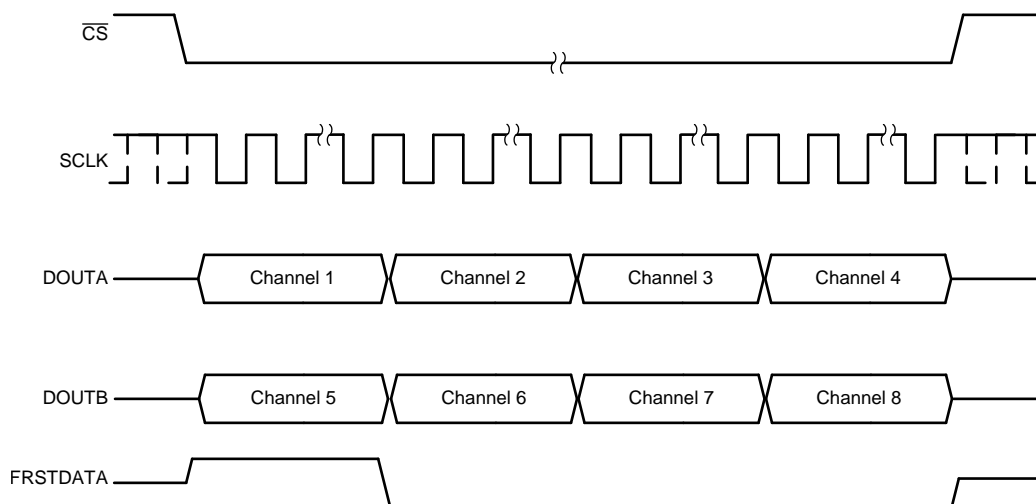

Figure 70. Data Read Back in the Serial Interface Using Both DOUTA and DOUTB Timing Diagram
- In order to minimize the time for the data read operation in serial mode, both DOUTA and DOUTB can be used to read data out of the device. In this case, the conversion results from the first set of channels (channels 1-4 for the ADS8578S) appear on DOUTA and the conversion results from the second set of channels (channels 5-8 for the ADS8578S) appear first on DOUTB. To read the data for all channels, provide a total of $14 \times 4 = 56$ SCLK cycles for the ADS8578S. This entire data frame can be created within a single $\overline{\text{CS}}$ pulse or each group of 14 SCLK cycles can be individually framed by the $\overline{\text{CS}}$ signal. Figure 70 shows an example timing diagram.